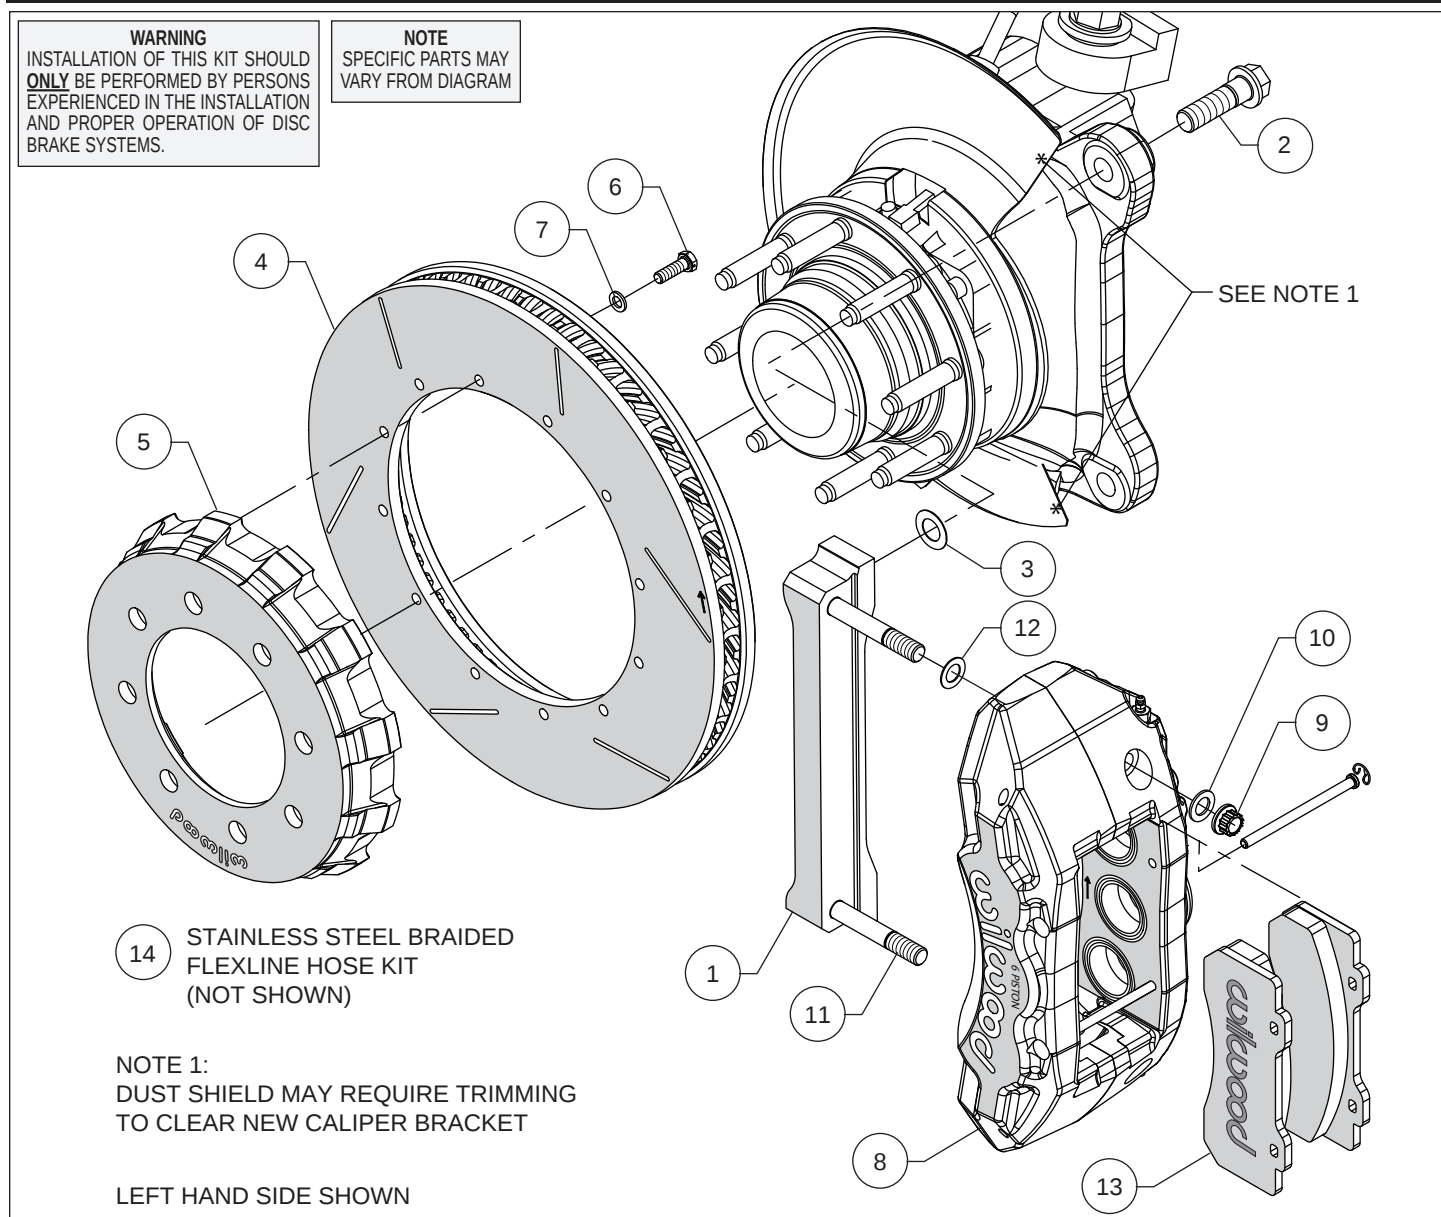

Figure 1. Typical Installation Configuration
Assembly Instructions (numbers in parenthesis refer to the parts list and Figure 1 on the preceding pages):
- The caliper mount bracket (1) should initially be installed with clean, dry threads on the mounting bolts. Orient the bracket as shown in Figure 1 and Photo 1, and install using bolts (2). Initially place one .024 thick shim (3) on each bolt between the bracket and upright, Figure 1. Temporarily tighten the mounting bolts. **NOTE:** The bracket must fit squarely against the mount bosses on the upright. Inspect for interference from casting irregularities, machining ridges, burrs, etc. as well as the dust shield which may need to be trimmed just a little. Later, after the caliper alignment has been checked, the mount bolts will be torqued to specification.
- **NOTE:** This kit contains distinct right and left hand calipers that must be mounted in a specific direction, as described below. Lubricate the caliper mounting studs (11) with lightweight oil. Initially place one .032" thick shim (12) on each stud as shown in Figure 1 and Photo 3. Mount the caliper (8) onto the bracket (1) using lock nuts (9) and washers (10), Figure 1. Ensure that the caliper is mounted so that the largest pistons are at the rotor exit end of the caliper, in relation to the direction of rotor rotation. Temporarily tighten the lock nuts and view the rotor through the top opening of the caliper. The rotor should be centered in the caliper, Photo 4. If not, adjust by adding or subtracting shims (3) between the bracket and the upright. Always use the same amount of shims on each of the two mounting bolts. Once the caliper alignment is correct, torque bolts (2) to 120 ft-lb.